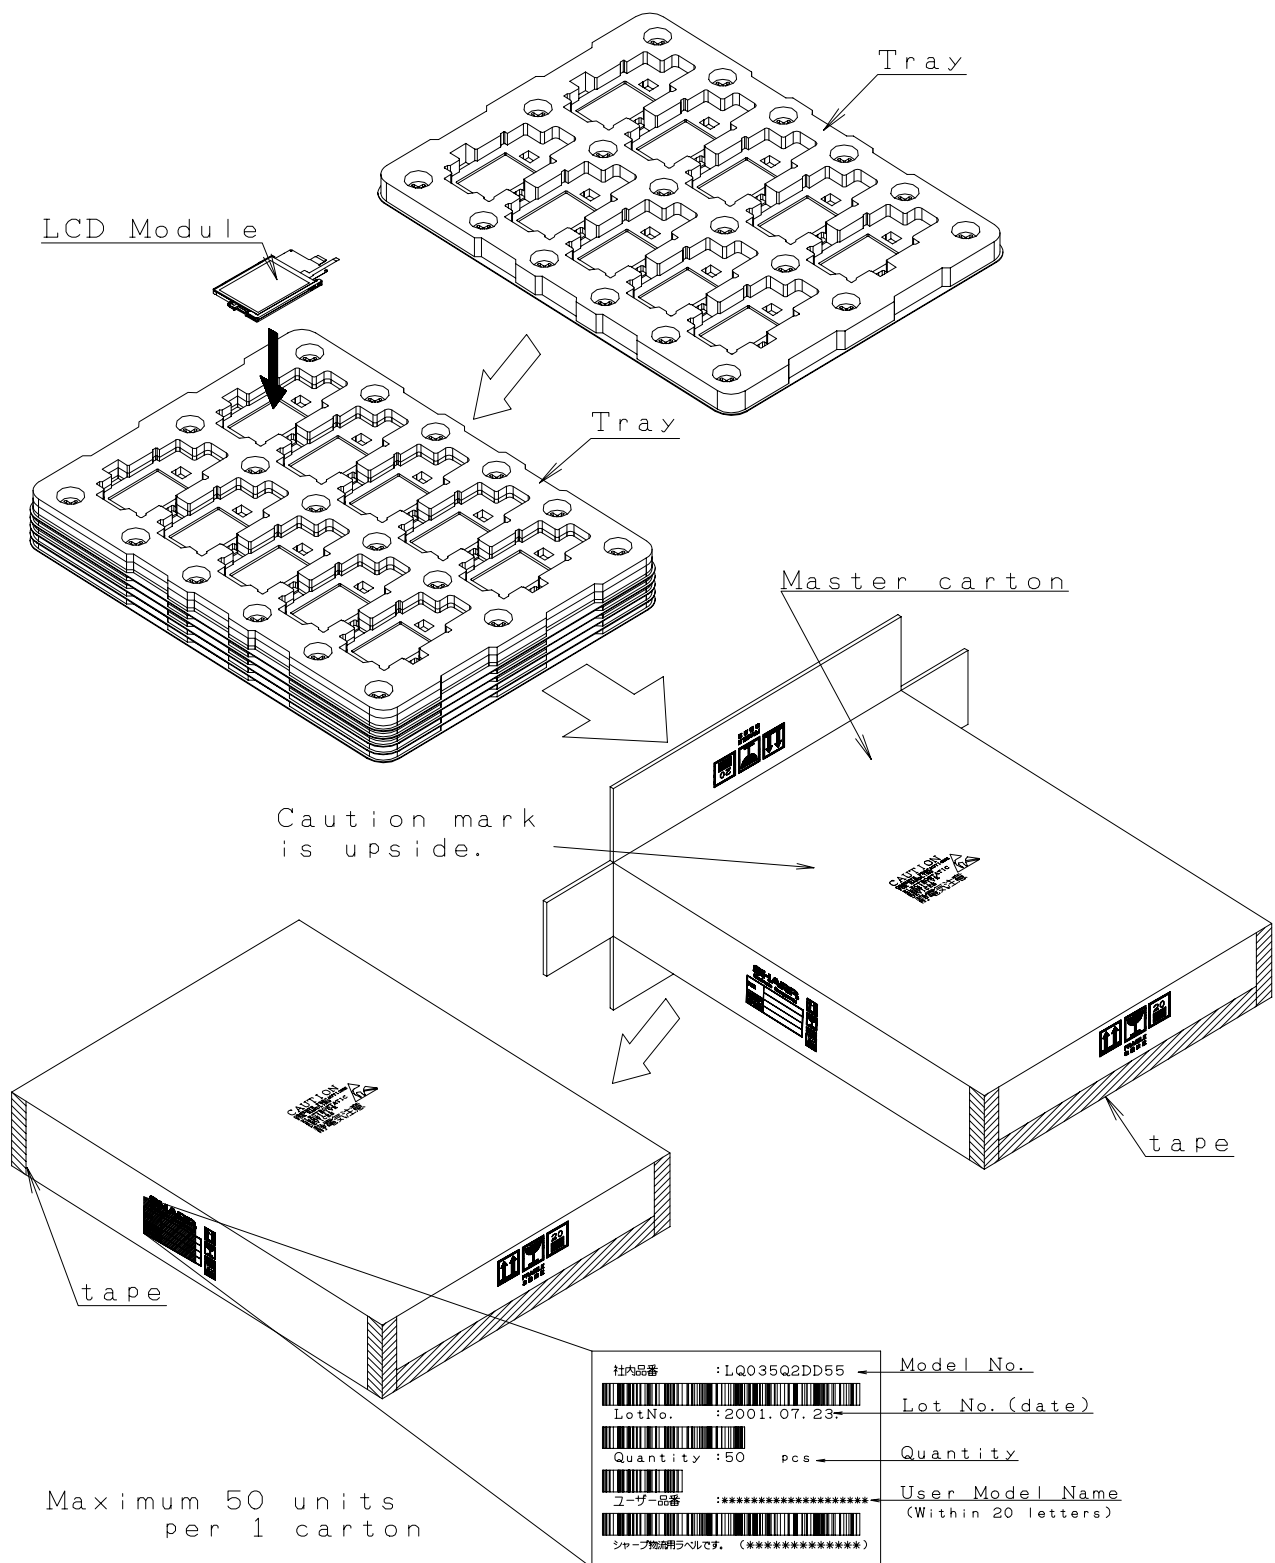

Fig.4 Package Form
17)Forwarding form(see Fig.4 Package Form)